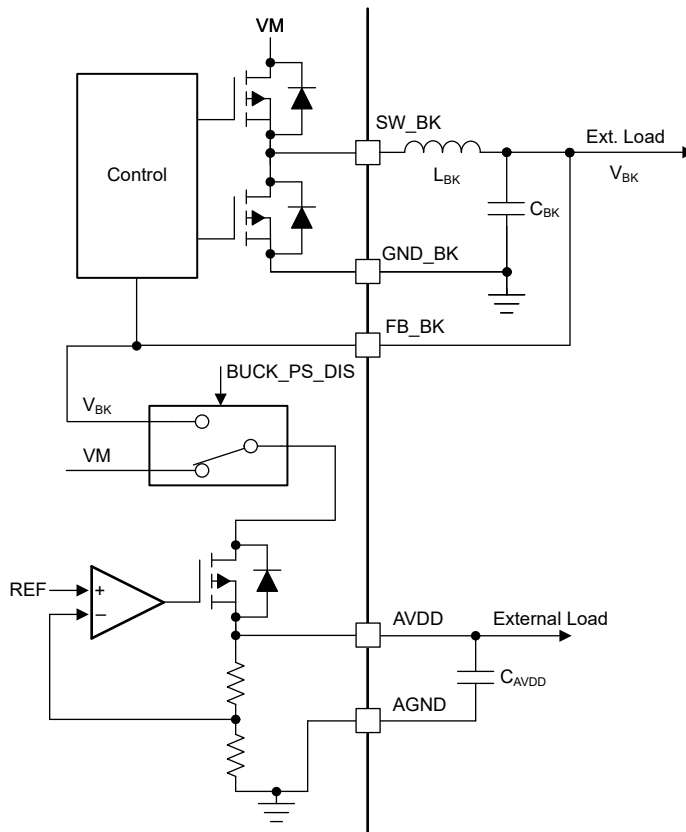

Figure 8-11. AVDD Power Sequencing on mixed mode Buck Regulator
The AVDD LDO has an option of using the power supply from mixed mode buck regulator to reduce power dissipation internally. The power sequencing mode allows on-the-fly changeover of LDO power supply from DC mains (VM) to buck output (VBK) as shown in Figure 8-11. This sequencing can be configured through the BUCK_PS_DIS bit. Power sequencing is supported only when buck output voltage is set to 5.0 V or 5.7 V.